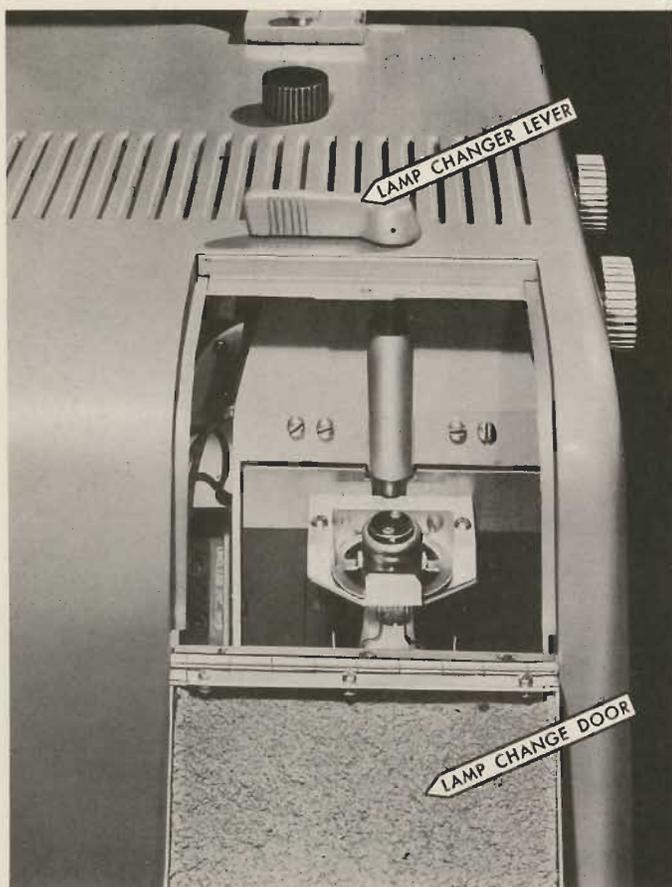

FIGURE 8
1. Open the LAMP CHANGE DOOR, figure 8.